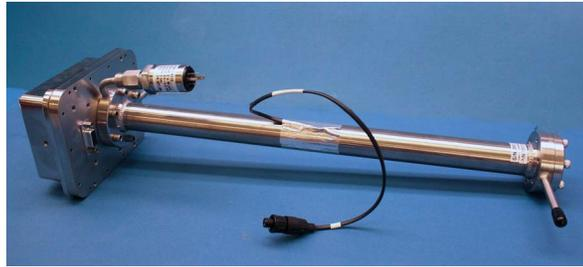

Figure B-5 Removed measurement cell with pressure sensor face up
12. Place the measurement cell on a clean, flat surface with the pressure sensor facing up. Refer to Figure B-5.